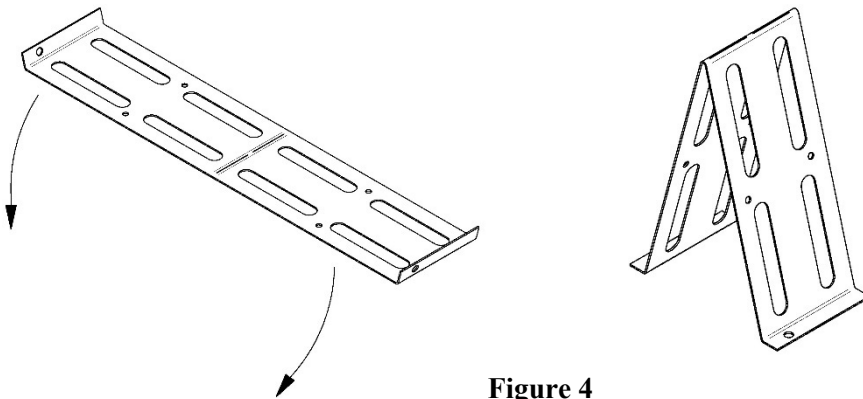

Figure 4
1. Fold by hand the 2 spacers like illustrated in **Figure 4**.